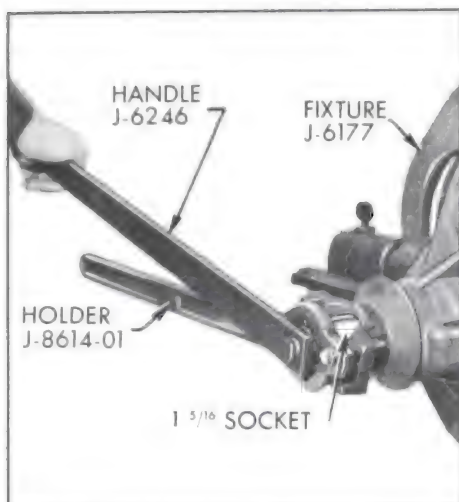

Figure 6-15—Removing Pinion Nut
2. Install Holder J-8614-01 on pinion flange using two 5/16-18 x 2 bolts with flat washers. (On 4700, install Holder J-8614-01 on pinion flange using Adapters J-21619.) Remove pinion nut using a 5/16 (3/4 drive) socket on Handle J-6246. Remove washer. See Figures 6-15 and 16.